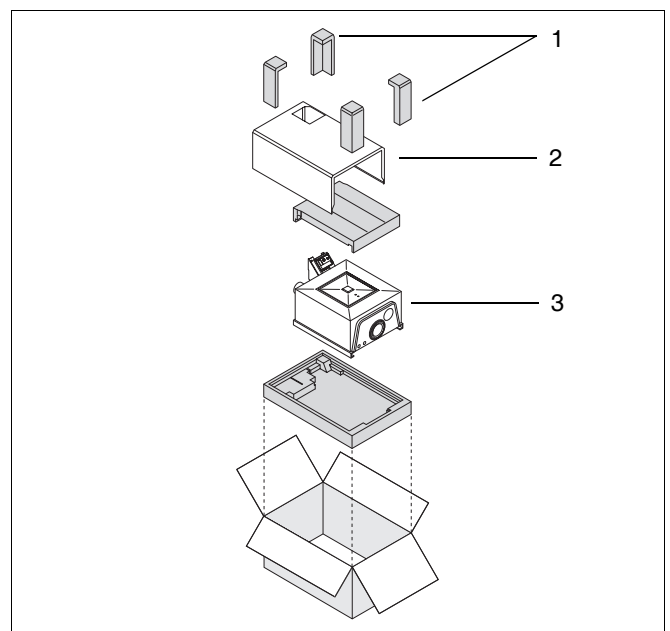
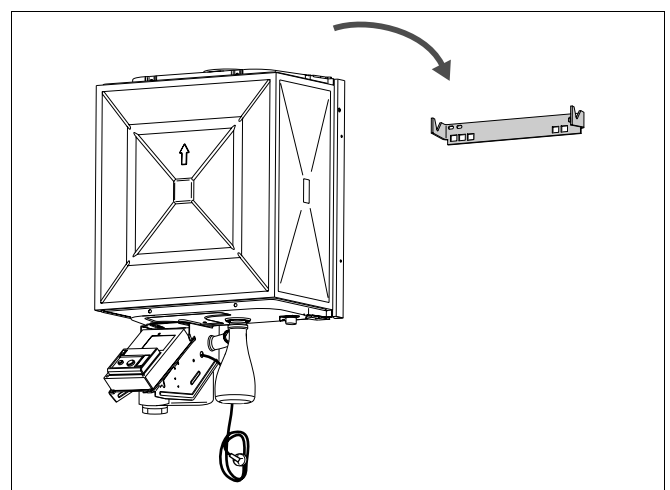

Fig. 2 Unpacking the box
Fig. 3 Installation
- Open the box and remove the four foam supports (fig. 2, item 1). The casing is not attached to the boiler.
- Take out the casing (fig. 2, item 2) and put aside during installation.
- Take out the condensing gas boiler (fig. 2, item 3) and hang onto the wall bracket (fig. 3).